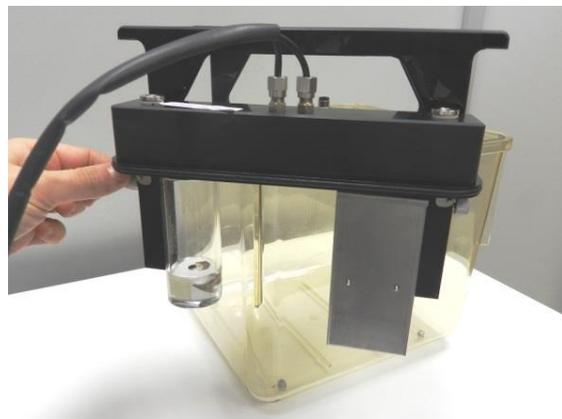

Figure 47: Dismounting the dispensers
- Rest the lid over the cage (Figure 47) to freely handle the food and drink dispensers.